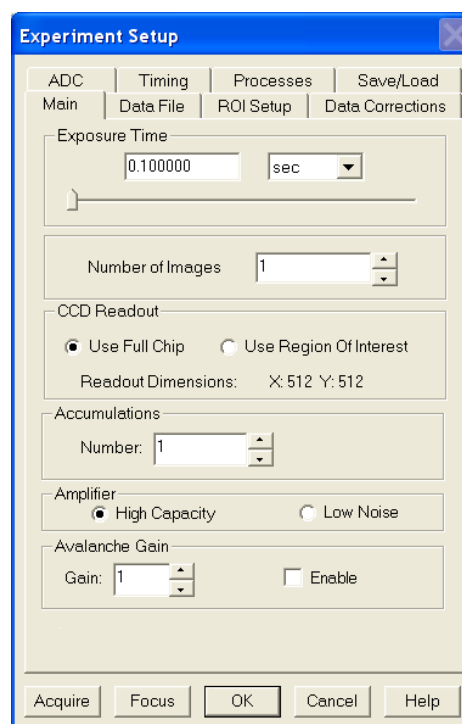

Figure 39. Experiment Setup/Main tab
1. Open the **Experiment Setup** dialog (Figure 39) from the **Acquisition** menu or by clicking on the  button on the **Custom Toolbar**.